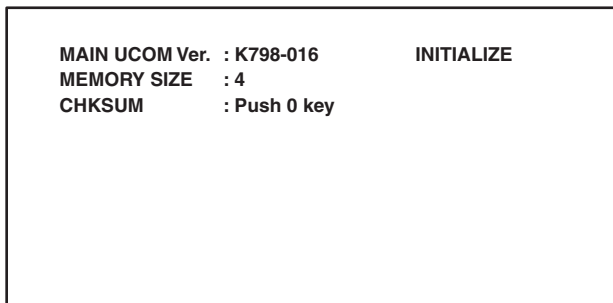

Fig. 1
- "INITIALIZE" (red) appears on the screen as shown in Fig. 1.